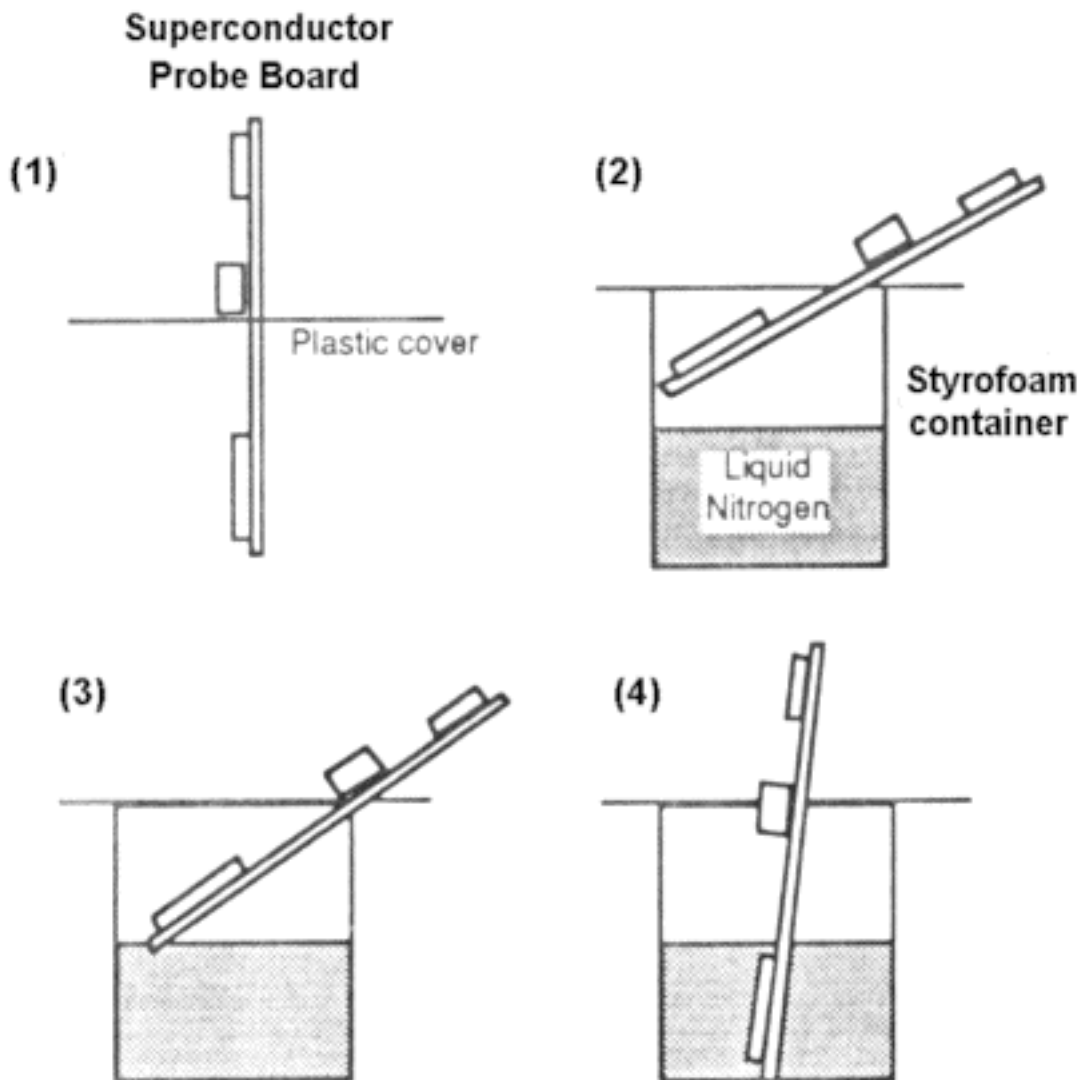

Fig. 3
(7.2) Insert the SUPERCONDUCTOR PROBE BOARD into the slit of the provided plastic cap. Let the plastic cap be below the interface jack, as shown in (1) of Fig. 3.
(7.3) Insert the SUPERCONDUCTOR PROBE BOARD into the liquid nitrogen container in such a way that the bar assembly is kept above the liquid level and the plastic cap covers the opening of the container, as shown in (2) of Fig. 3. The bar assembly is gradually cooled by the cold nitrogen evaporating from the liquid nitrogen. The plastic cap prevents the air from entering the container to form frost on the superconductor bar being cooled down.
(7.7) The probe can be cooled to about 120°K by the cold nitrogen gas evaporating from the liquid nitrogen. From that point, you should insert further the probe until you hear the hissing noise. Now use the liquid nitrogen in contact with the end of the brass or aluminum disk to cool down the whole bar, as shown in (3) of Fig. 3. You will notice that the temperature drops again and the VOLTAGE OUTPUT drops rapidly, indicating that the superconductor is cooled below its critical temperature and becomes superconducting. The data of the change of the VOLTAGE OUTPUT vs. the TEMPERATURE MONITOR in this stage is not reliable since the bar assembly is not cooled uniformly. We will measure the superconducting transition more accurately in the next step.
(8.1) You can immerse the bar assembly completely into liquid nitrogen when the TEMPERATURE MONITOR is about 80°K, as shown in (4) of Fig. 3.